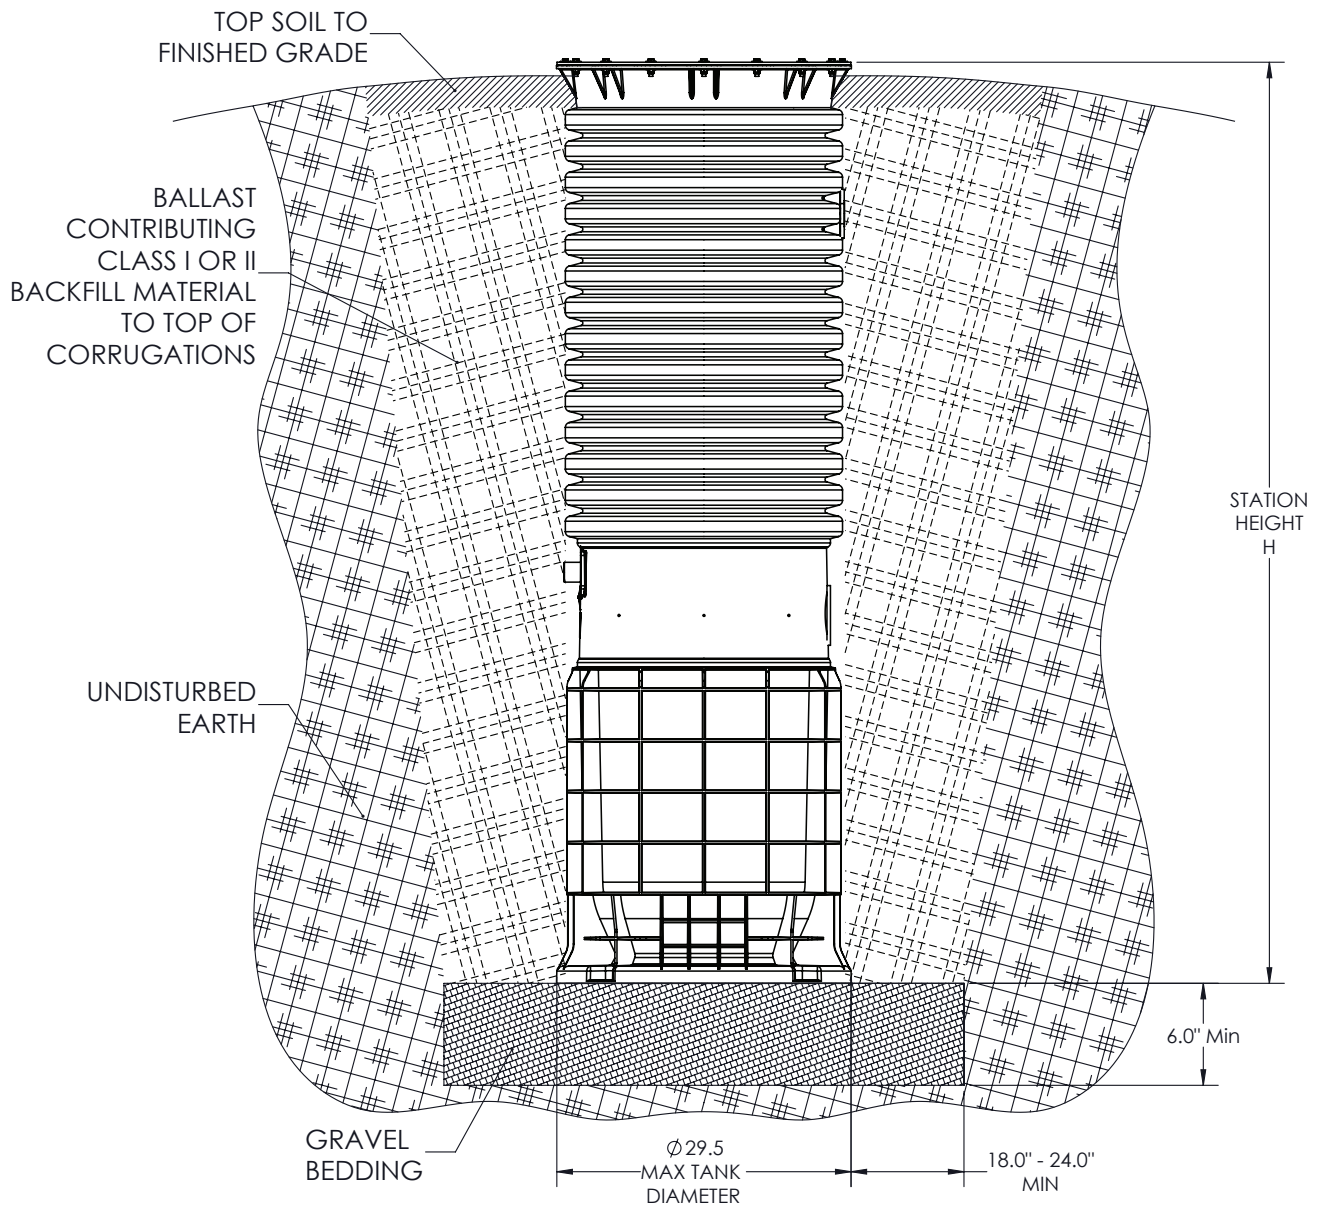

Figure 8
2. TANK INSTALLATION: The tank is supplied with a standard 4-inch PVC DWV (4.5 inches inside dia.) inlet socket for connecting the incoming sewer drain. Do not drop, roll or lay the tank on its side. Doing so may damage the unit and void the warranty. Excavate a hole to a depth so the removable cover extends above the finished grade line; the grade should slope away from the unit. The diameter of the hole must be large enough to allow for appropriate bedding and backfill installation (Fig. 8). Place the unit on a 6-inch bed of gravel, naturally rounded aggregate, clean and free-flowing, with particle size not less than 1/8 inch or more than 3/4 inch in diameter. WH101F tanks that feature the Universal Wet Well do not require additional concrete anchor to prevent flotation in the presence of high ground water. WH101F tanks with a corrugated bottom section require alternative installation instructions that detail a concrete anchor for ballast. Contact your local E/One distributor for assistance.
5. BACKFILL REQUIREMENTS (Fig. 8): Proper backfill is essential to the long term reliability of any underground structure. Several methods of backfill are available to produce favorable results with different native soil conditions.
Unique to the E/One models DH071 and WH101 (including the WH101F) incorporating an injection molded Universal Wet Well, the bottom flange of the tank is designed to capture a suitable column of backfilled soil to resist the upward buoyant force. The weight of the backfill soil along with the soil shear resistance of the soil can retain the tank in the ground – when properly installed in suitable soil conditions. See figure 8 for proper tank burial.